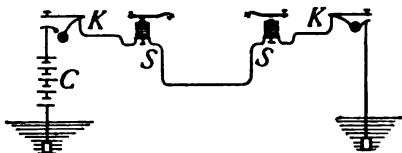
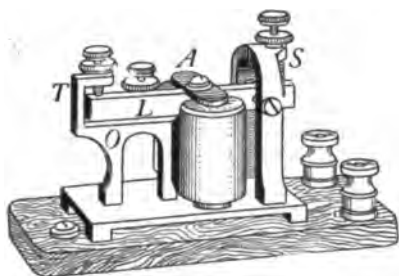

FIG. 237.—A simple telegraph circuit.
FIG. 238.—A telegraph sounder.
**260. The Telegraph.**—The invention of an effective electromagnet by Henry made possible the *electric telegraph*. In its simplest form it consists of a battery, *C*, a key, *K*, and a sounder, *S*, with connecting wires. (See Fig. 237.) The *sounder* (Fig. 238) contains a *horseshoe electromagnet* and a bar of soft iron across its